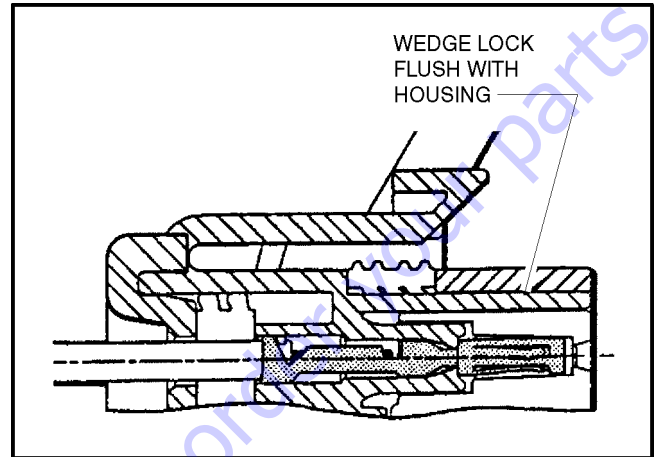

Figure 7-13. Connector Assembly (4 of 4)
4. Slide the wedge lock into the housing until it is flush with the housing (See Figure 7-13., Connector Assembly (4 of 4)).